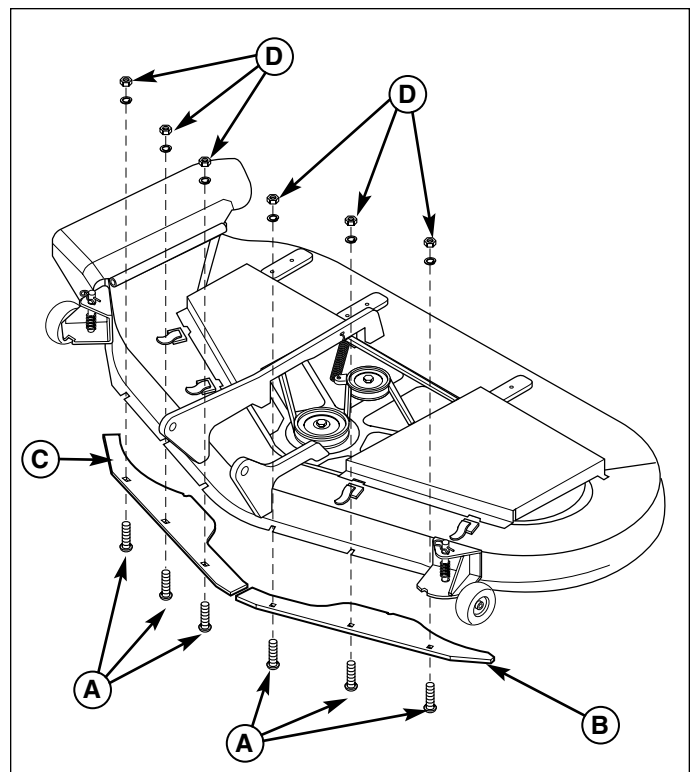

Figure 10. Install Front Baffles
2. Install the left (23-1/2" long) baffle and right (26-1/2") front baffle (B & C, Figure 10) using six 5/16-18 x 3/4 carriage bolts (A), lockwashers, and nuts (D). Be sure the bolts are inserted fully into the slots in the mower deck.
NOTE: The baffles (Figure 10) do not need to be removed.